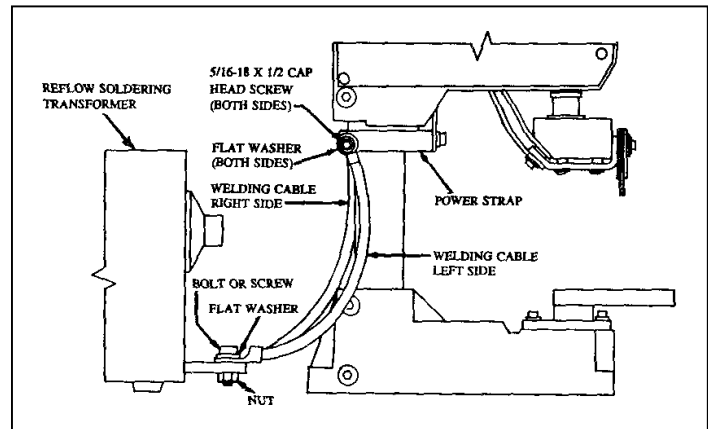

Figure 2-10. 90RF and 90RA Reflow Soldering Head Connections
- 1 Reference Figure 2-10. Position the Power Supply or Welding Transformer approximately 4 to 5 inch behind the Weld Head. Connect one 16 inch WELDING CABLE to the left side of the WELD HEAD POWER STRAP using a 5/16-18 x 1/2 CAP HEAD SCREW. The FLAT WASHER goes between the CAP HEAD SCREW and the WELDING CABLE terminal.